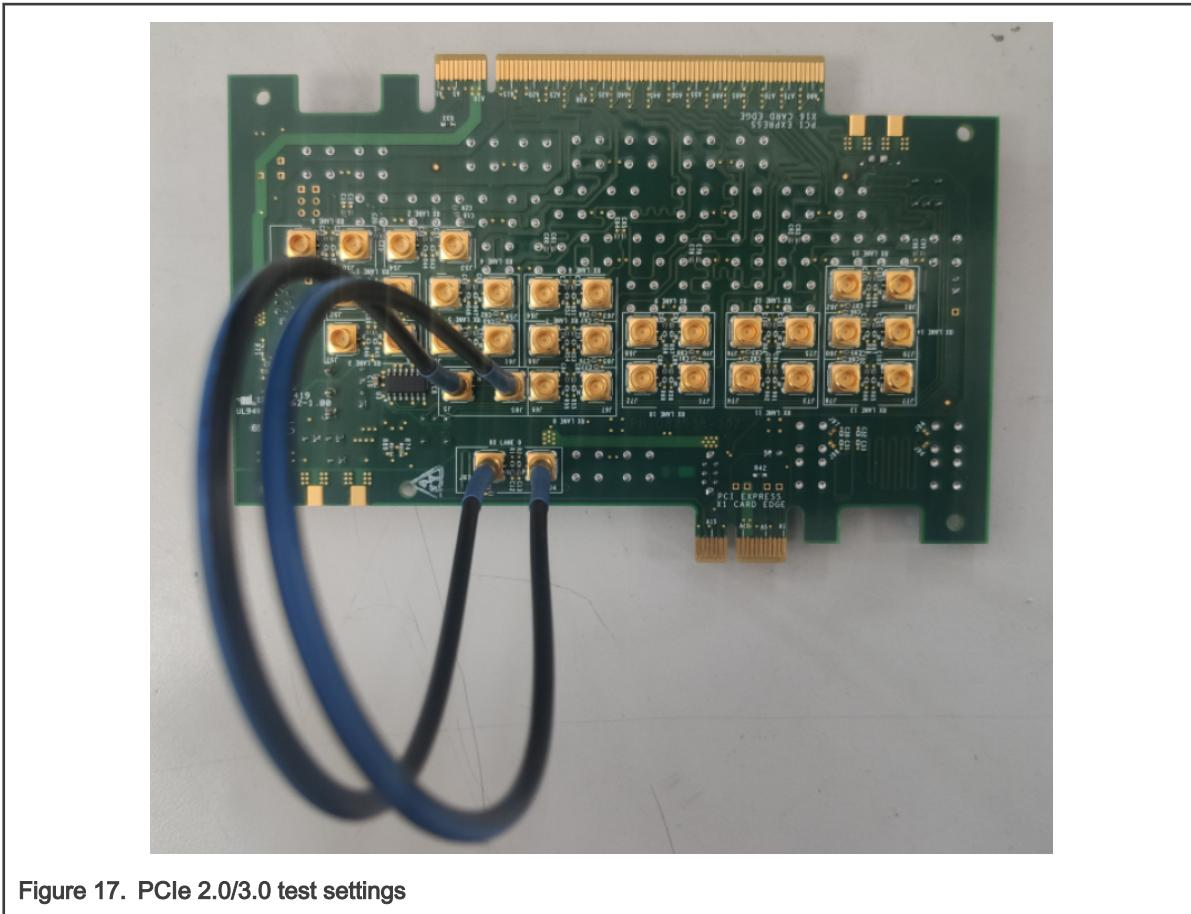

Figure 17. PCIe 2.0/3.0 test settings
- a. Use one SMP-SMP cable to connect **J85** to **J4** and another SMP-SMP cable to connect **J5** to **J87**, as show in Figure 17.